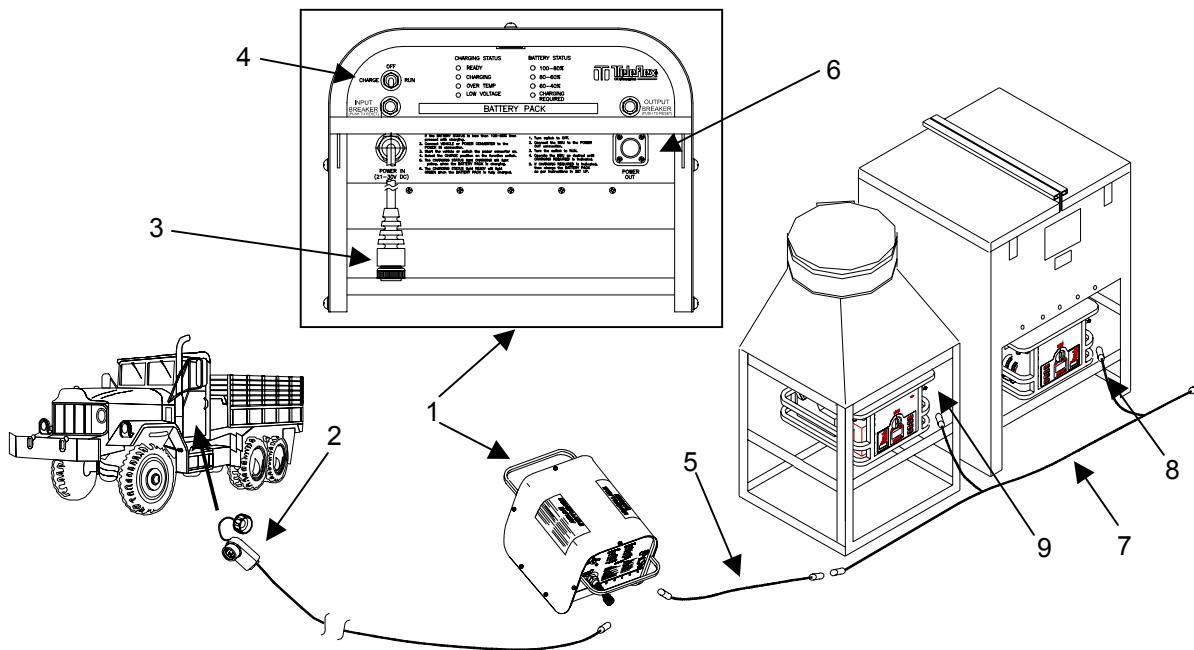

Figure 6. Connecting Power Cables Using Vehicular Power and Battery Pack
1. If the battery pack (**figure 6, item 1**) is used to supplement vehicular power, connect the NATO adapter cable (**figure 6, item 2**) to the Power Input Connector (**figure 6, item 3**) of the Battery Pack.
2. With the Battery Pack 3-position function switch (**figure 6, item 4**) OFF, connect one end of the 25-ft (24VDC) extension (**figure 6, item 5**) (if required for additional length) to the Battery Pack Power Output Connector (**figure 6, item 6**).
3. The 2-Branch cable (**figure 6, item 7**) can then be connected to the opposite end of the 25-ft Extension Cable (**figure 6, item 5**).
4. The cable branches (**figure 6, item 8**) are then connected to the power-in receptacle of the individual burners (**figure 6, item 9**).